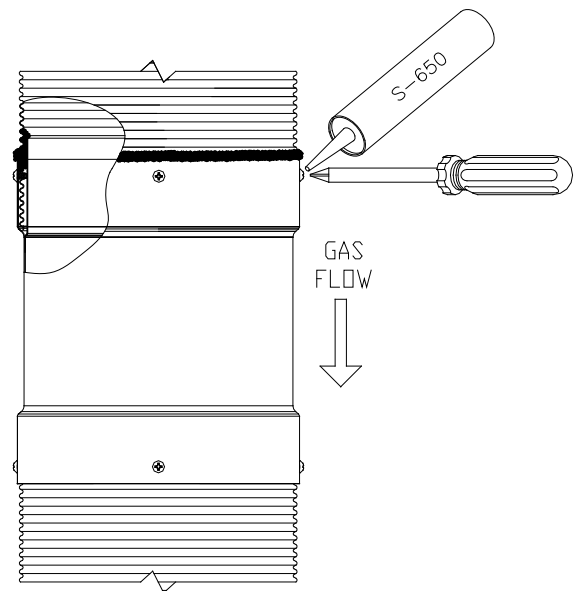

Figure 24 - DuraSeal Flex screws
- 3.5. Add the red S-650 caulking over the screws (Figure 24).